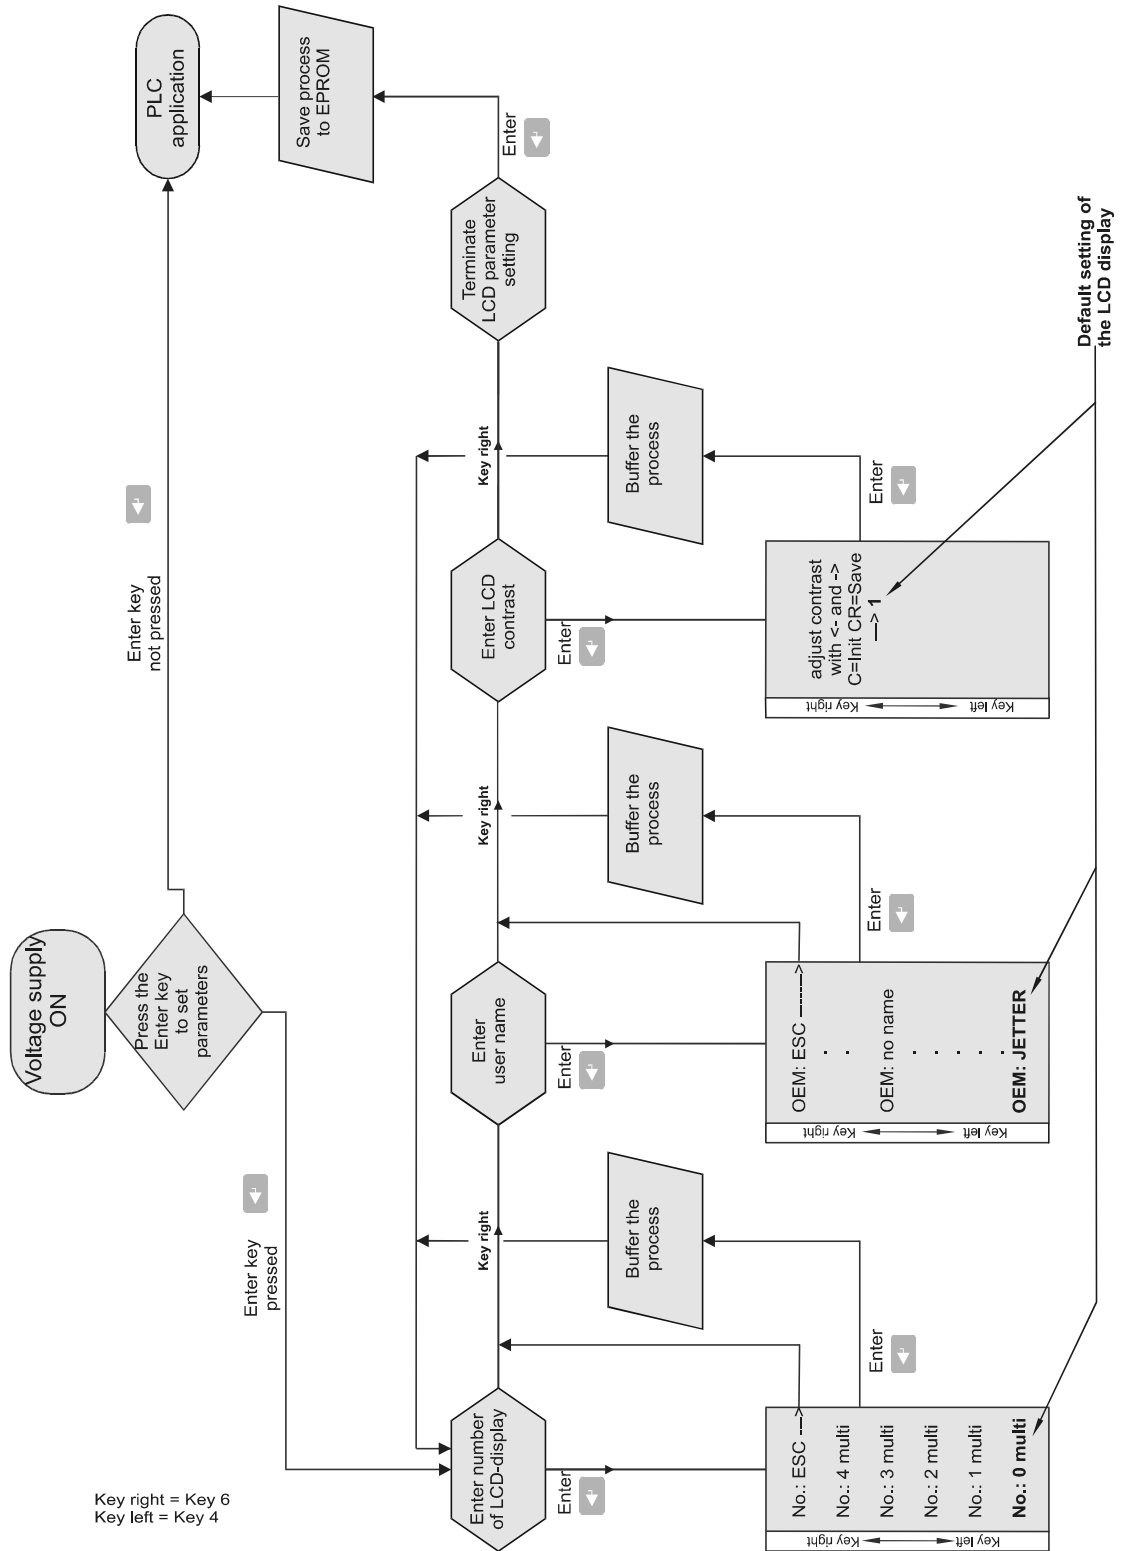

Fig. 4: Flow Chart: LCD Parameterizing
- The parameters of the LCD 54 user interface must be entered according to the flow chart shown on Abb. 4, Seite 15.